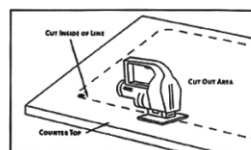

FIGURE 2
4. Trace the outline of the template and cut countertop according to templated outline using appropriate cutting tools. Template is for guide only. Use physical sink to ensure accurate cutout opening. (FIGURE 2)